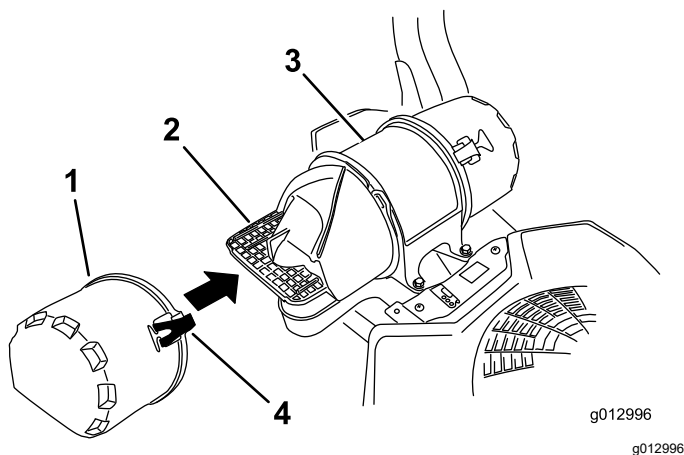

Figure 37
3. Release the latches on the air cleaner and pull the air-inlet cover off the air-cleaner body (Figure 37).
5. Install the air-inlet cover and secure it with the latches (Figure 37).